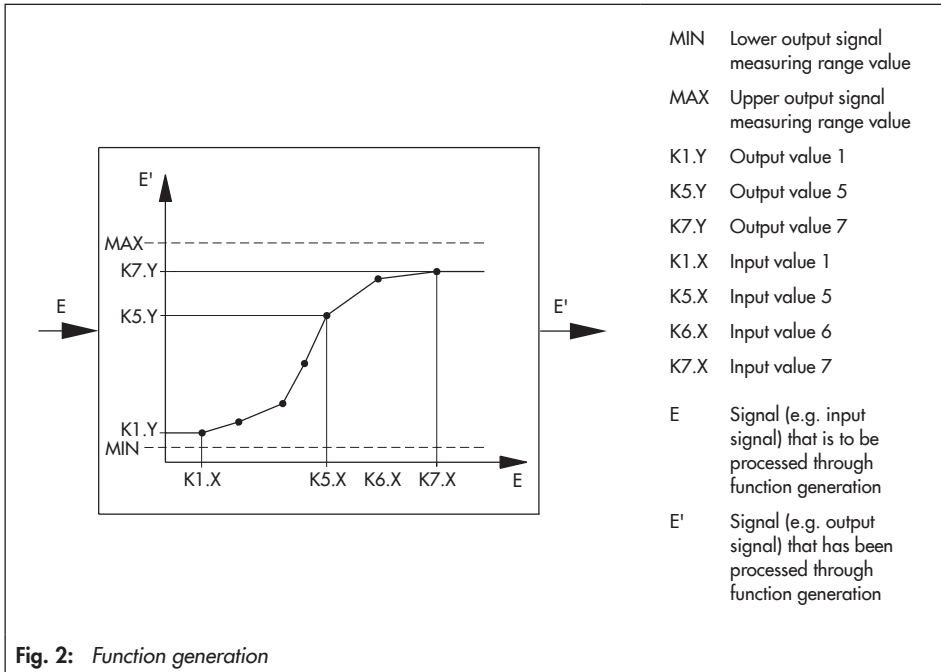

Fig. 2: Function generation
- The controller completes the polygonal curve by generating straight lines (see Fig. 2). If an output value is entered to be greater than MAX or smaller than MIN, it is fixed to the value of MAX or MIN. An example for using function generation can be found in section 10.